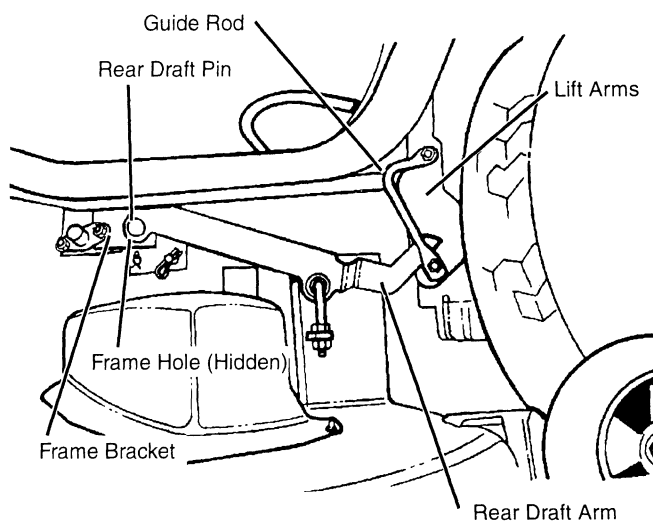

FIG. 7
- Position the deck so the rear draft arms are between the gold colored guide rods and the lift arms on the outboard side. (See Fig. 7)
- Lift the mower deck. Place 2 in. blocks under the R.H. and L.H. rear edges of the deck enabling you to align the holes in the front of the rear draft brackets with the holes in the frame bracket. (See Fig. 7)